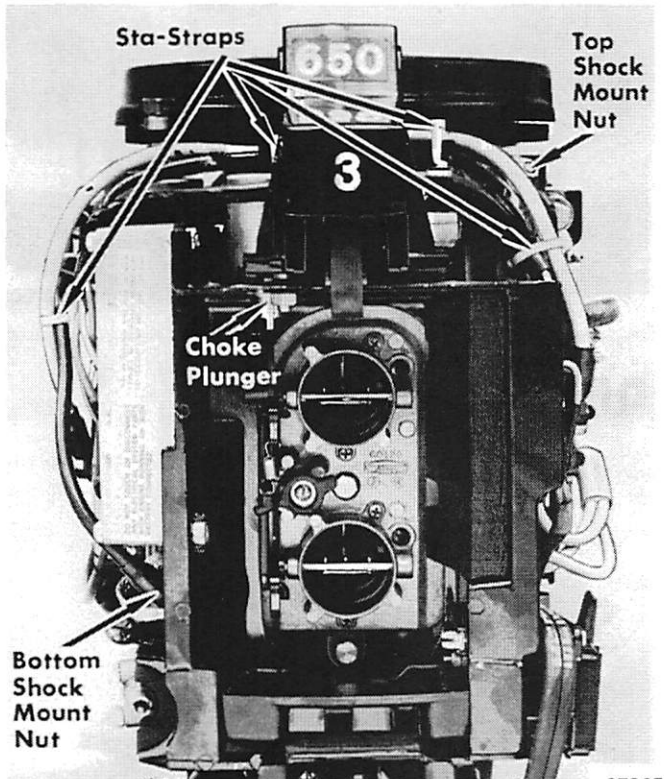

Figure 1. Powerhead, Front View
7. Remove gray lead from choke solenoid and pull choke solenoid plunger down from solenoid. (Figure 1)
3. Remove locknuts from top and bottom front cowl support shock mounts (Figure 1) and remove front cowl support.